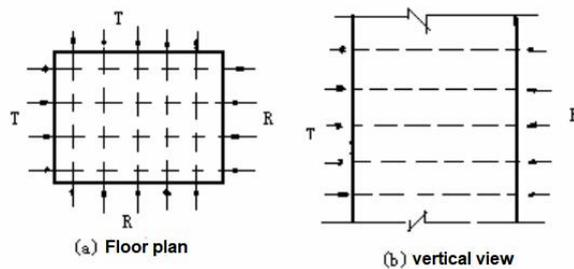

Figure 1.1 Schematic diagram of the test method
(1) When the member has two pairs of mutually parallel test faces, the opposite test method can be used, and the test method is as shown in Fig. 1.1. In the two pairs of mutually parallel test surfaces of the survey area, draw equally spaced grids (grid spacing: 100-300mm for industrial and civil buildings, other large structures can be appropriately relaxed), and numbered to determine the corresponding measuring point position. ;